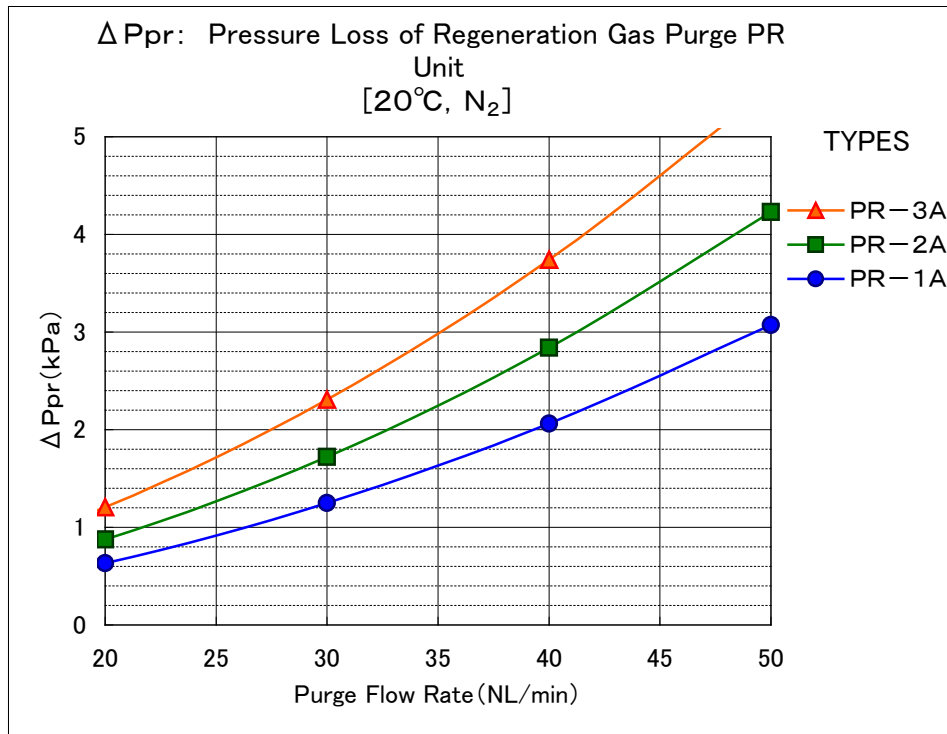

Figure 4 Pressure Loss of Regeneration Gas Purge PR Unit
2. If the pressure in a cryopump exceeds 10~20kPaG, a safety valve will operate. Choose an appropriate size and length of the gas purge pipe in order to maintain the pressure loss in the entire purge gas introduction line to be 5kPaG or less at the set flow rate. (Refer to Figure 4)